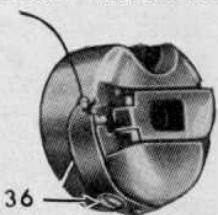

FIG. 17
as this adjustment is more delicate. In case you consider it necessary to adjust the lower tension, remove bobbin case from the machine. Turn bobbin case spring screw (36), fig. 17, to the right to tighten lower thread tension. If the tension is to be lessened, turn this screw to the left.